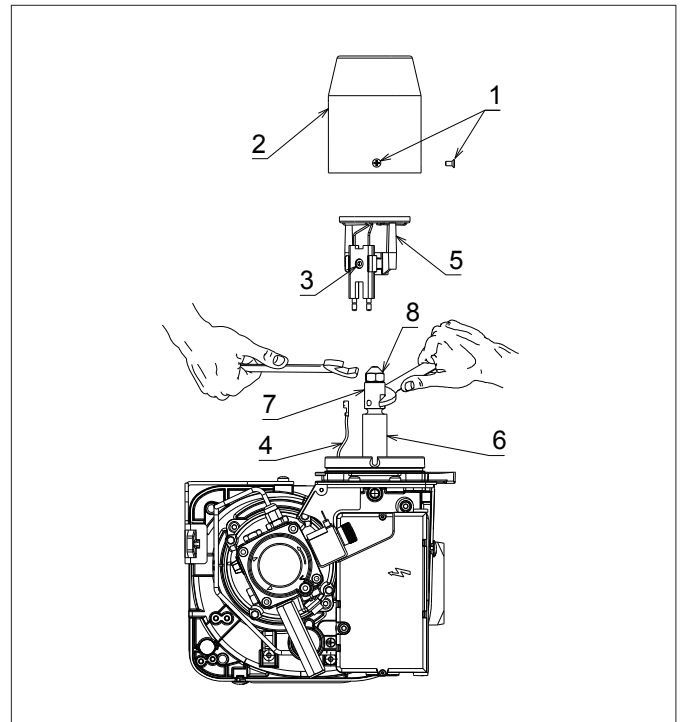
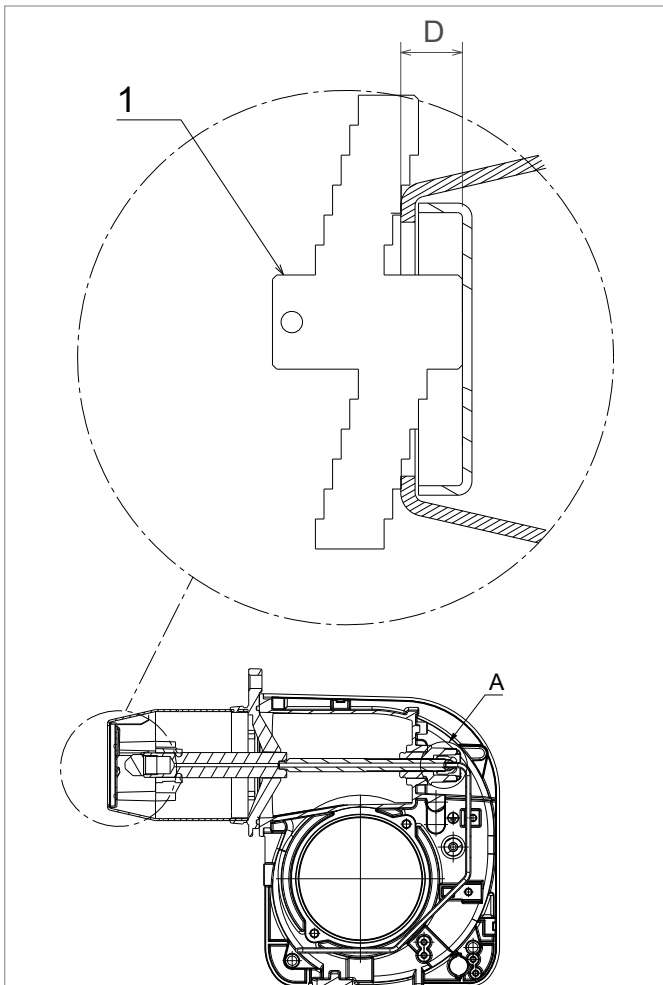

Figure 10-3: Burner head, diffuser and nozzle holder
Figure 10-5: Riello RDB 2.2 BX diffuser position and gauge plate
4. Remove the burner head. Refer to Figure 10-3. Loosen the three fixing screws (1) and remove head (2) from burner.
6. If the nozzle needs to be replaced - remove the diffuser/electrode assembly. Refer to Figure 10-3.
- Using a 4 mm Allen key, loosen the diffuser fixing screw (3) on the electrode assembly.
- Lift diffuser/electrode assembly (5) up and off the nozzle holder.
- Disconnect both ignition leads (4) from the electrodes.
8. Re-fit the diffuser/electrode assembly. Refer to Figure 10-3.
- Reconnect ignition leads (4) to electrodes.
- Re-fit the diffuser/electrode assembly (5) onto the nozzle holder lining up the fixing screw with the recess in the nozzle holder.
- Tighten the fixing screw (3) to secure the diffuser/electrode assembly in place on the nozzle holder.
7. Re-fit the burner head. Refer to Figure 10-3.
- Locate the head fixing screws (1) in the countersunk slots in the burner collar.
- Tighten the three screws (1) to secure the head (2) in position on the burner.
8. Adjust the diffuser position. Refer to Figure 10-5.
- Position the gauge on the burner head as shown in Figure 10-5.
- If necessary, adjust distance D using the black adjustment knob located around the oil supply pipe on the front of the burner. Refer to item A (Figure 10-5). Re-check distance D using the gauge plate, as described above.